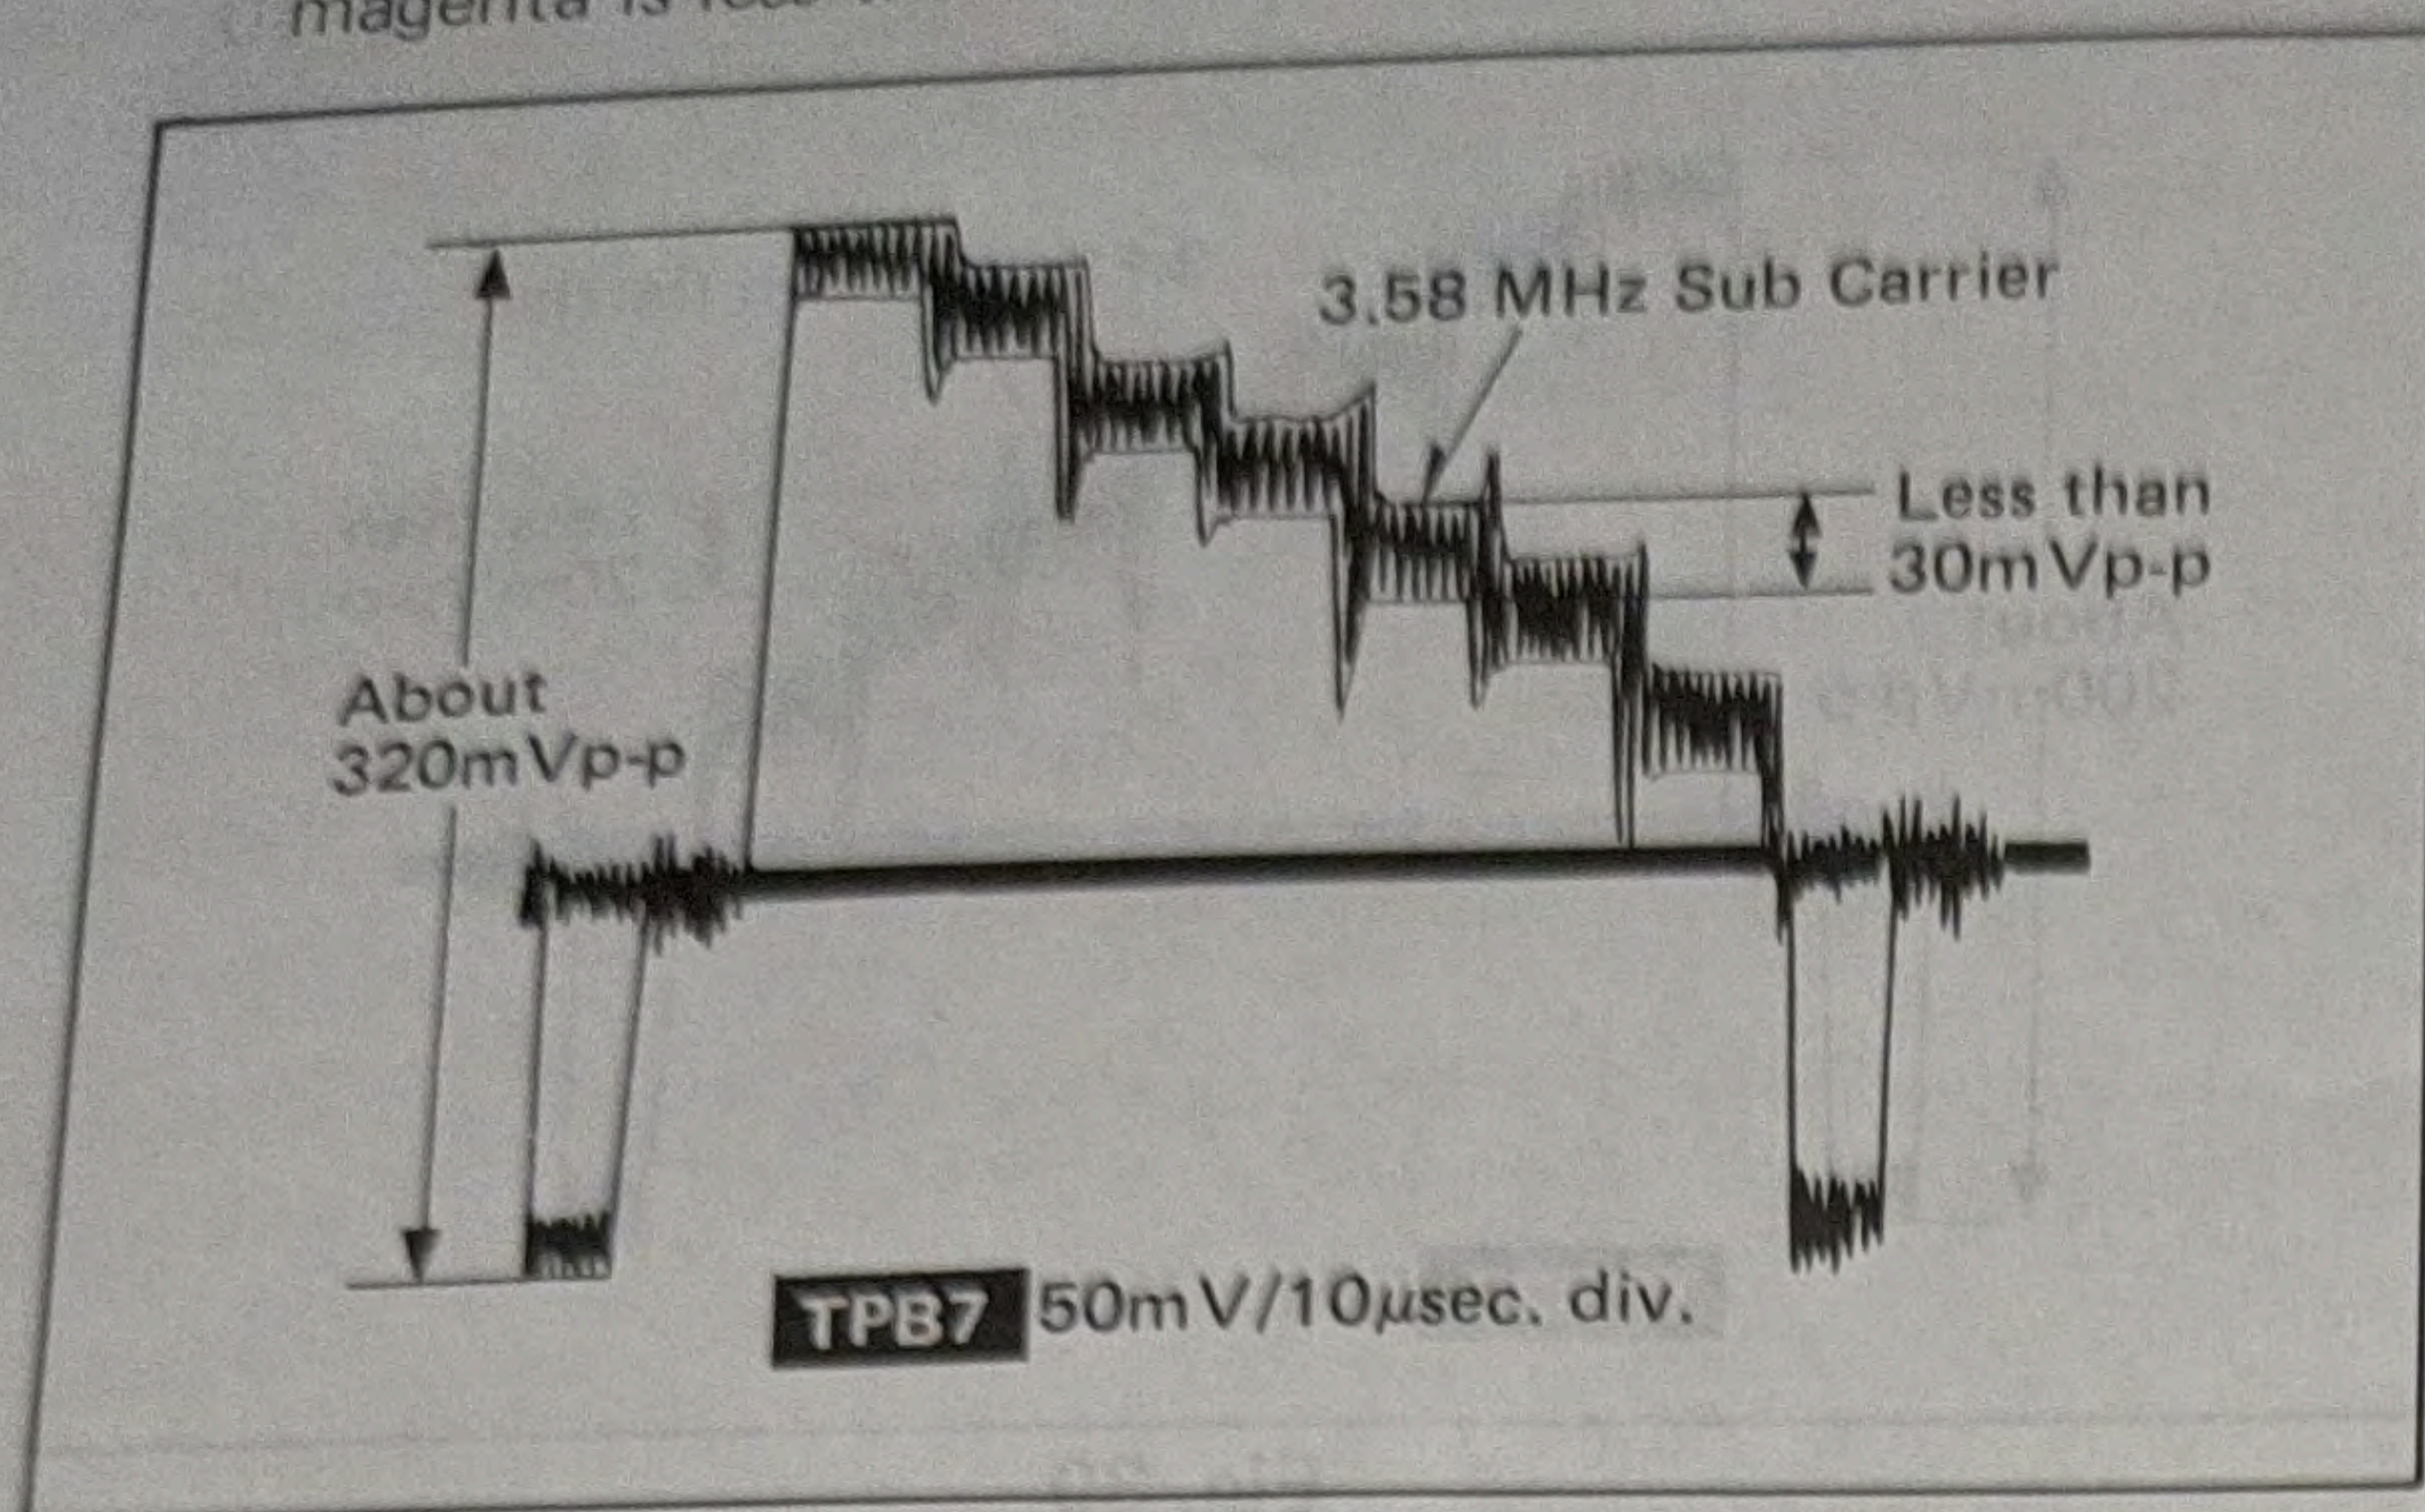

Fig. 32
4. Adjust L5004 to set 3.58 MHz sub carrier at the minimum amplitude as shown in Fig. 32.
5. Confirm that 3.58 MHz sub carrier portion of the magenta is less than 30mVp-p as shown in Fig. 32.